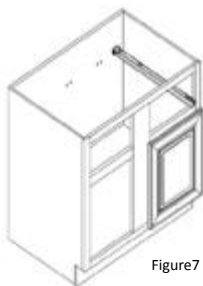
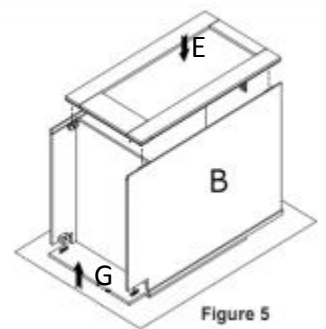
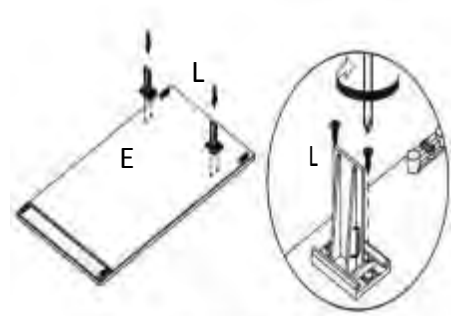

Figure 7
Figure 5
Figure 6
**4. Installing the Back Panel and Toe Kick (Figure 5):** Before you start this step, put the back panel (E) on a flat surface facing upward. Install the drawer rail holders (L) in the pre-spotted area on the back panel (Figure 6). The opening of the holders should be facing towards each other. Secure them with 2 round head screws (Figure 6). Then put the back panel (E) at rear of side panel (B) (Figure 5). Align and lock each cam lock. Install the Toe Kick (G) by locking the cam lock at both ends (Figure 5).
**5. Installing the Shelves:** Insert the shelf clips into the holes on the side panels at the desired height and slide in the shelves (F).
**6. Installing the Drawer Slide Rails (Figure 7):** Insert the drawer side rails back into the holder (L) previously installed (Step 4) on the back panel. Then secure the drawer rail front end with 1/2" screws using the pre-drilled holes in the face frame. (Repeat this step for more drawers).